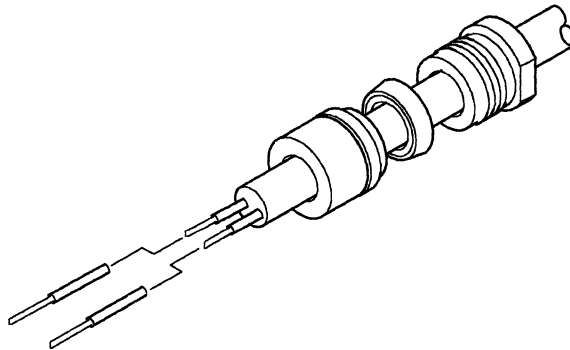

Figure 17. Soldering the Contacts
6. Using a noncorrosive solder at minimum heat, solder the contacts to the conductors. See Figure 17. Clean off any excess solder.